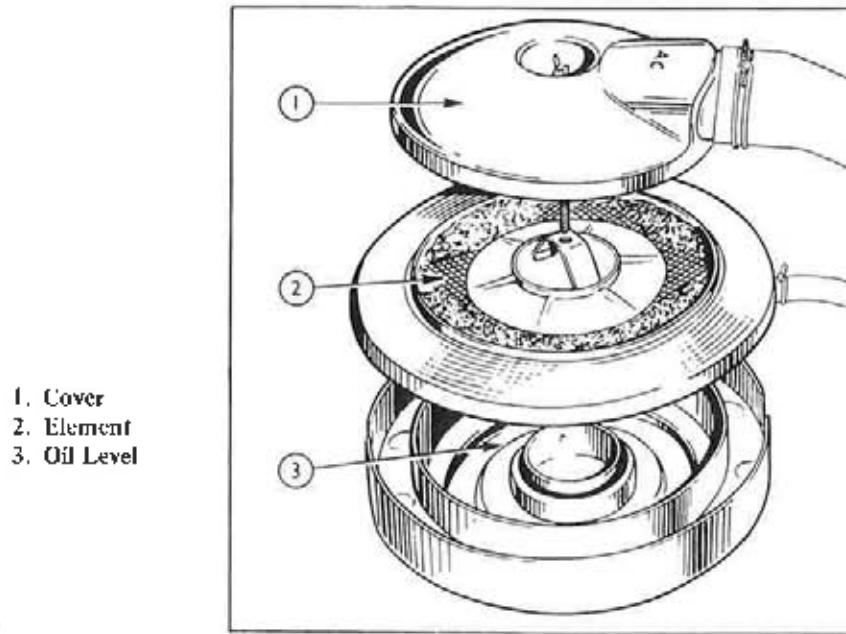

Fig. 7 - Oil Bath Air Cleaner
1. Loosen the wing bolt and remove the air cleaner assembly from the air inlet housing (Fig. 7). The cleaner may then be separated into two sections; the upper section or body assembly contains the filter element, the lower section consists of the oil cup, removable inner cup or baffle and the center tube.